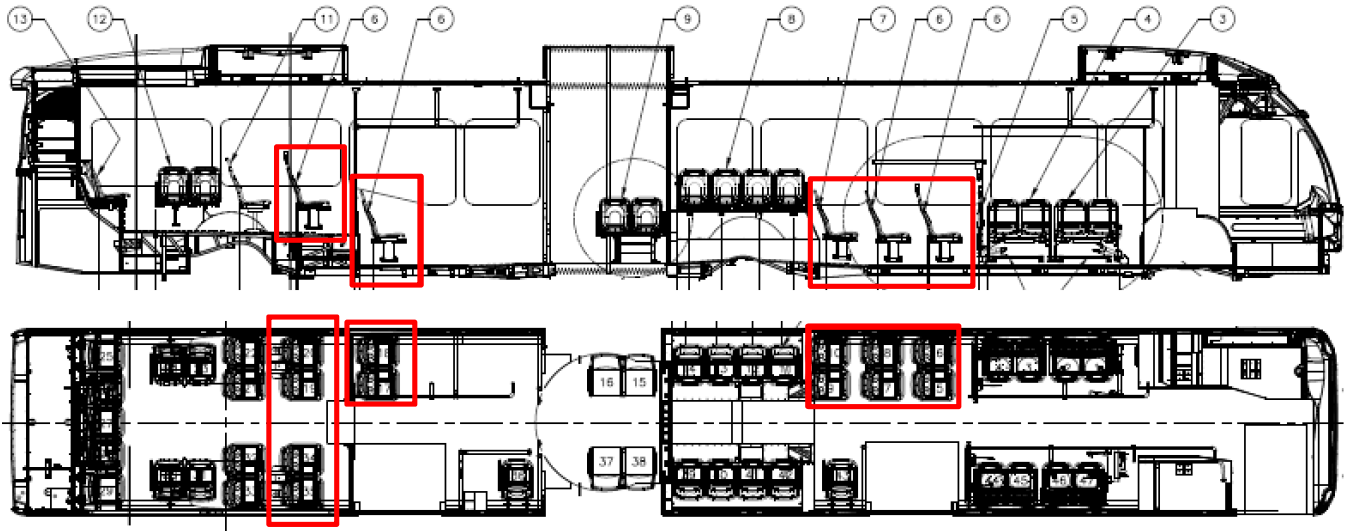

Figure 1: Six cantilever seats that are subject for this repair
3. Inside the bus, locate the six cantilever seats. The below procedure details how to add pedestals underneath these six seats. Refer to Figure 1.